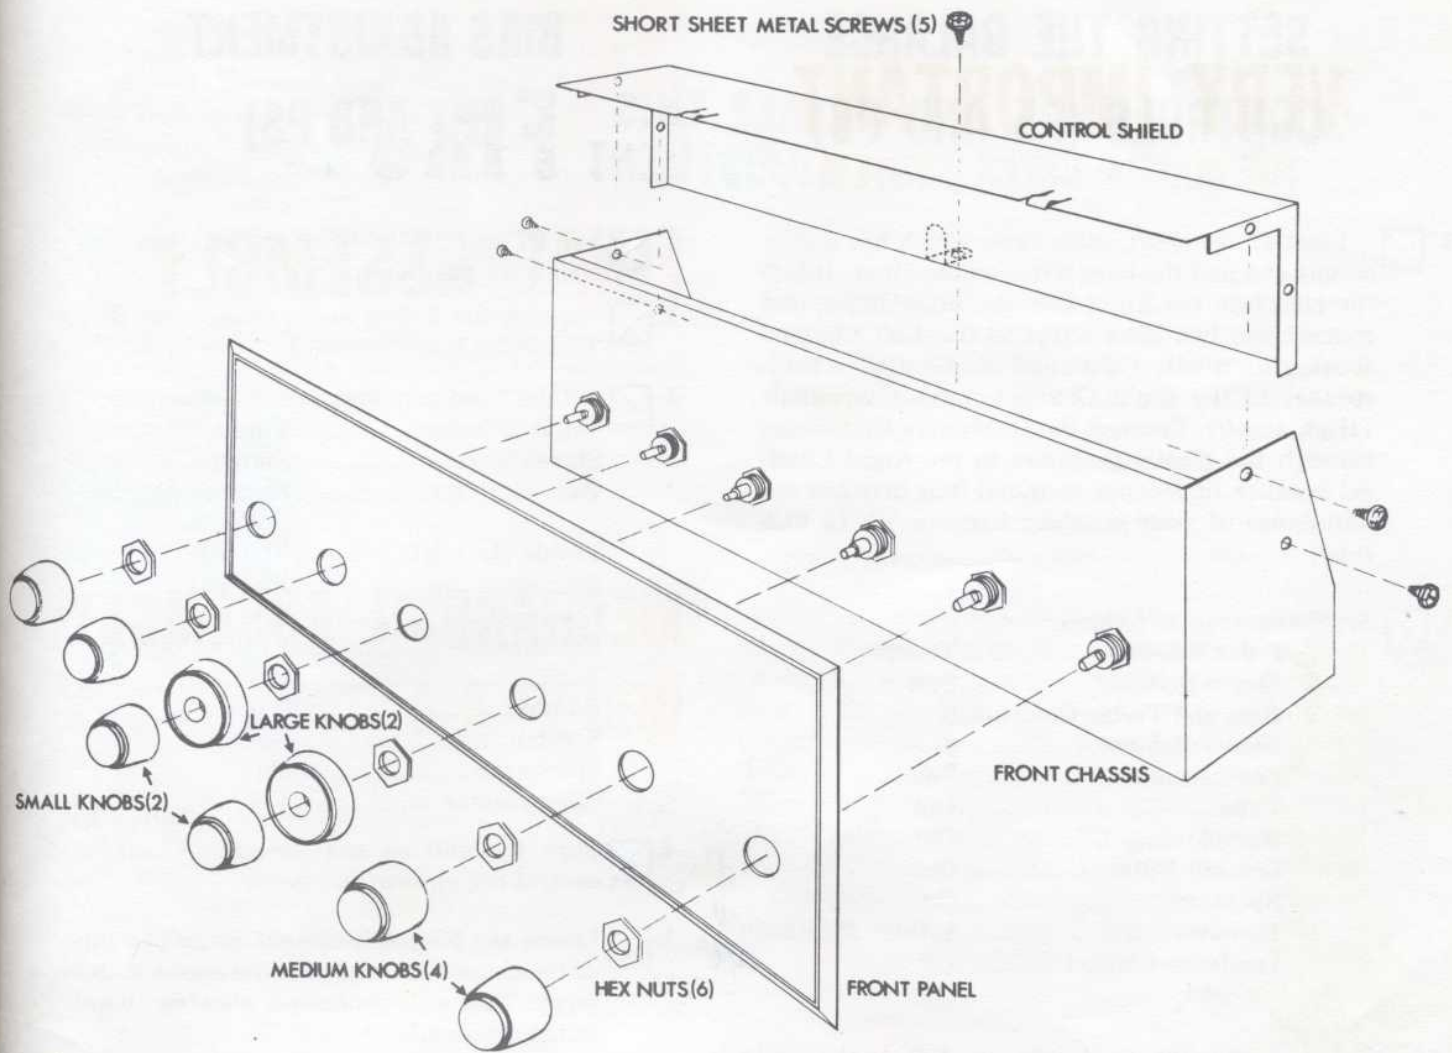

FIGURE 10
- Assemble the front panel as shown in (Figure 10). Tighten a brass hex nut on the six shafts to hold the panel in place. The shafts on which the four medium sized knobs are to be assembled have a flat surface on one side. Position the knobs on the shafts so that the set screws are tightened against this flat surface. The shafts of the Bass and Treble controls are both concentric. Turn these shafts *full counterclockwise*. Position a large knob on the shaft of the Bass controls so that the indicator line on the knob is in the most counterclockwise position. Tighten the set screw making sure that this shaft stays full counterclockwise, assemble a small knob in the same manner as above. Repeat this procedure for assembling a large and small knob to the shaft of the Treble control.
4.  Assemble the control shield with five of the short  $\frac{1}{4}$ " sheet metal screws. (See Figure 10.)